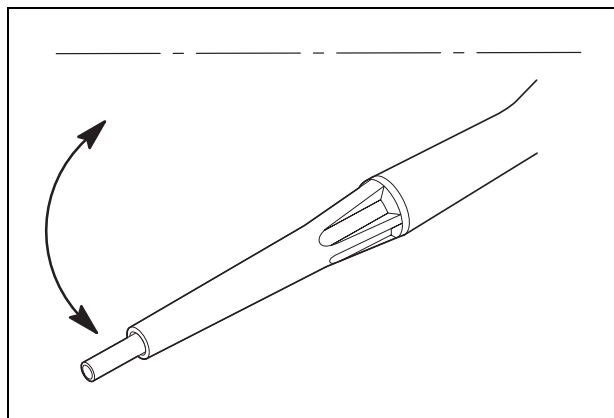

Figure 5.7
1. Ensure that the probe tip is not in contact with any other object. Make sure to orient the tip so that it is below the horizontal (see Figure 5.7).